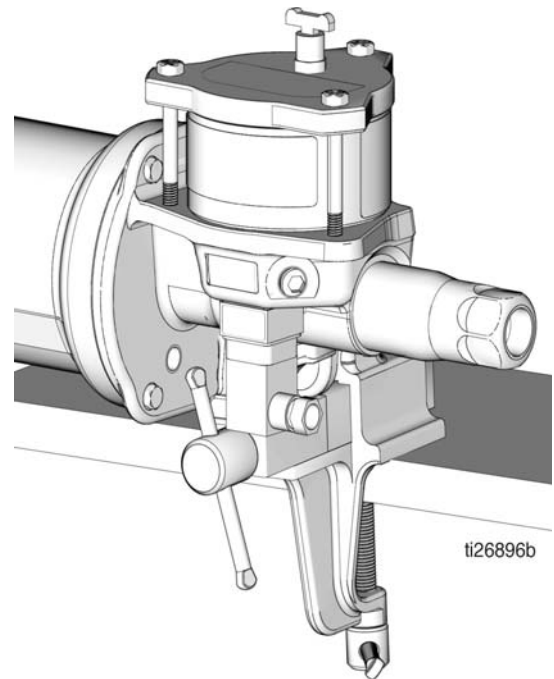

FIG. 15
8. Clamp the pump base in a vise as shown in FIG. 15. Use a soft-jaw vise or place a rag in the vise jaws to protect the surface of the pump base.